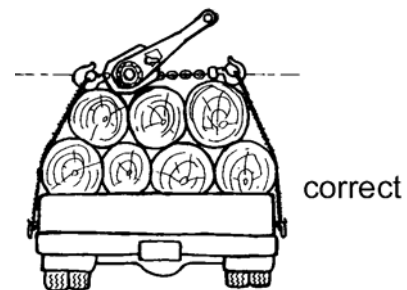

Figure 8
- ❑ When using a wire rope sling, the puller must be applied along a straight line parallel to the surface it is resting on, (Fig. 8).